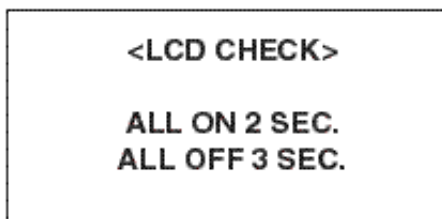

Figure 8-5 LCD CHECK screen
- The LCD is checked as shown in the message in Figure 8-5. Then, the test repeats. To stop the test, turn off the power.